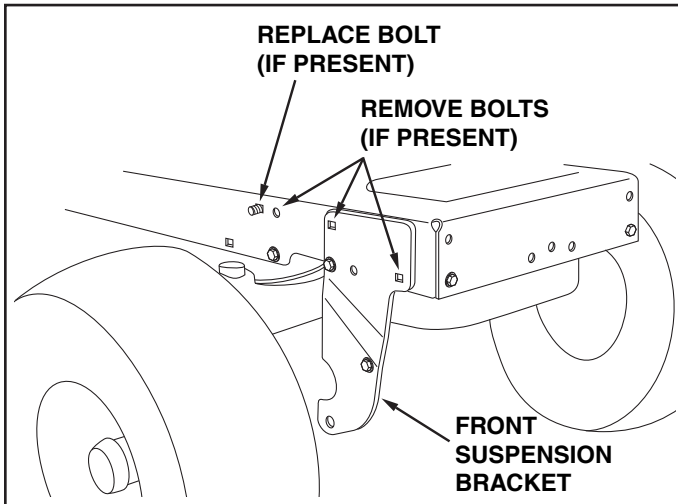

FIGURE 20
If your tractor resembles figure 20, go to step 21.
STEP 21: (SEE FIGURE 20)